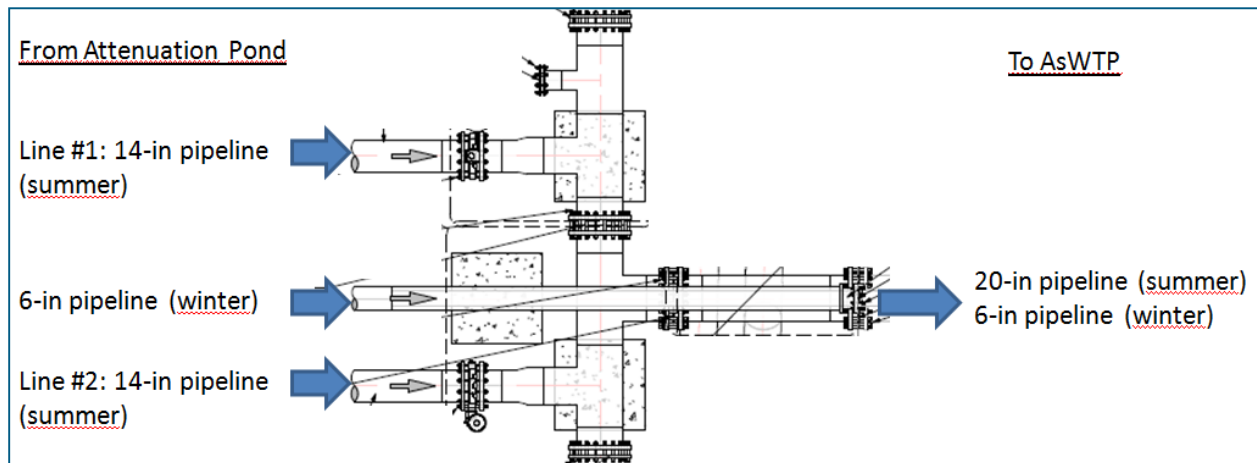

Figure 7: Inlet Header at the AsWTP
At the inlet of the AsWTP, the two (2) 14-in pipeline from the Whale Tail Attenuation Pond will connect to a common 20-in HDPE DR17 un-insulated header, as shown in Figure 7. A 20-in HDPE line will then connect the common header to the inlet of the AsWTP. The 6-in insulated and heat-traced pipeline used in the winter months will be connected directly to the 20-in HDPE pipeline located inside the AsWTP.